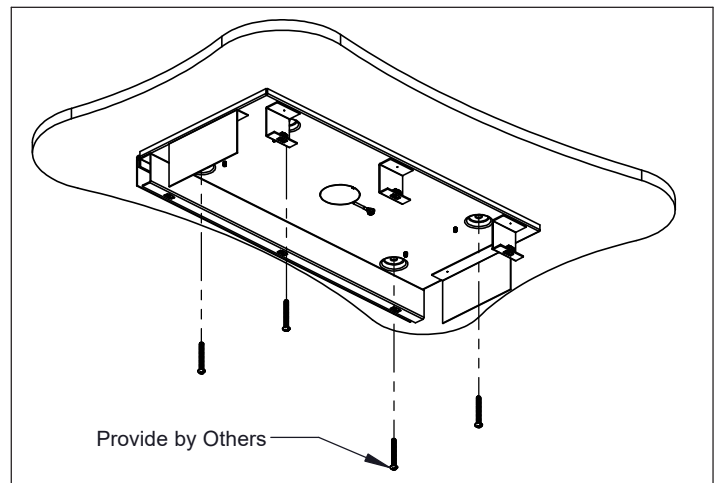

Figure 4
4. Mount in desired location with mounting hardware (by others) (Fig. 4)